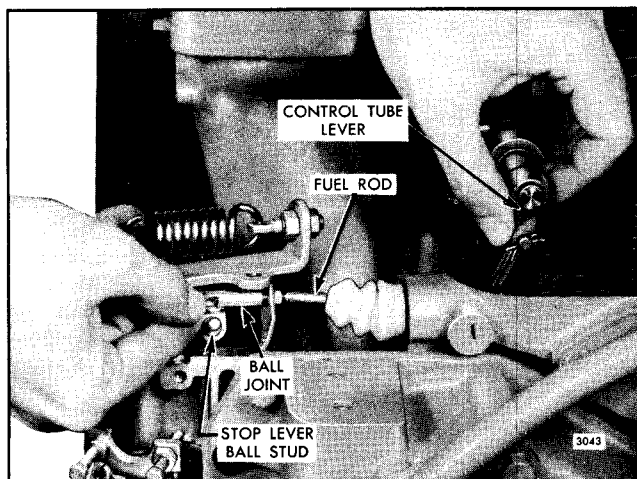

Fig. 4 - Adjusting Fuel Rod Length
6. Loosen the nut which locks the ball joint on the fuel rod. Hold the fuel rod in the full-fuel position and adjust the ball joint until it is aligned and will slide on the ball stud on the stop lever (Fig. 4). Position the shutdown cable clip and tighten the fuel rod locknut to retain the adjustment.